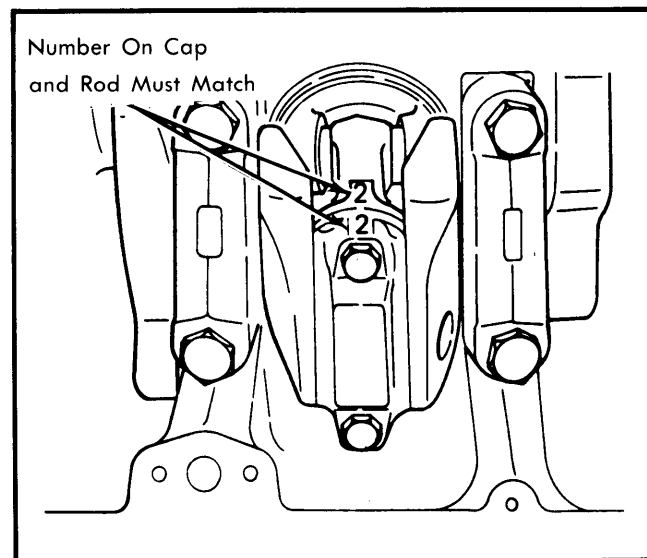

Fig. 7 Connecting Rod Bearing Cap Installation
3) Install connecting rod bearing cap by aligning it with cylinder number mark on connecting rod. See Fig. 7. Apply engine oil to threads and seating face of nuts, then install and tighten nuts. Check that crankshaft turns smoothly. Reverse removal procedures for remaining components.